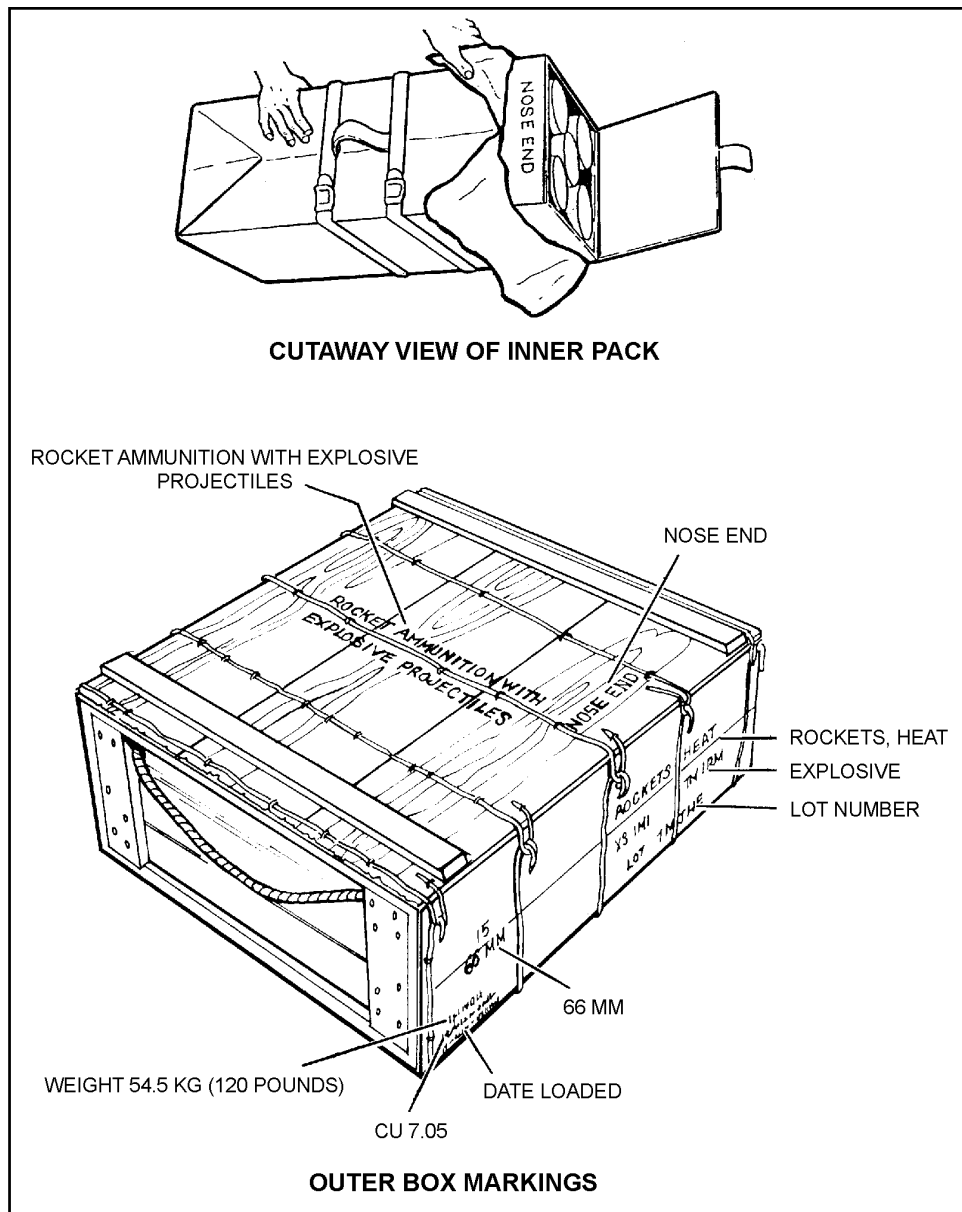

Figure 2-4. Packaging for M72-series LAW.
c. **Packaging.** Five complete M72-series LAWs are packaged within a fiberboard inner pack for a total weight of 12.5 kilograms (27 1/2 pounds). Three inner packs are then placed in a wire-bound wooden box, the gross weight of which is 54.5 kilograms (120 pounds) (Figure 2-4, page 2-4).